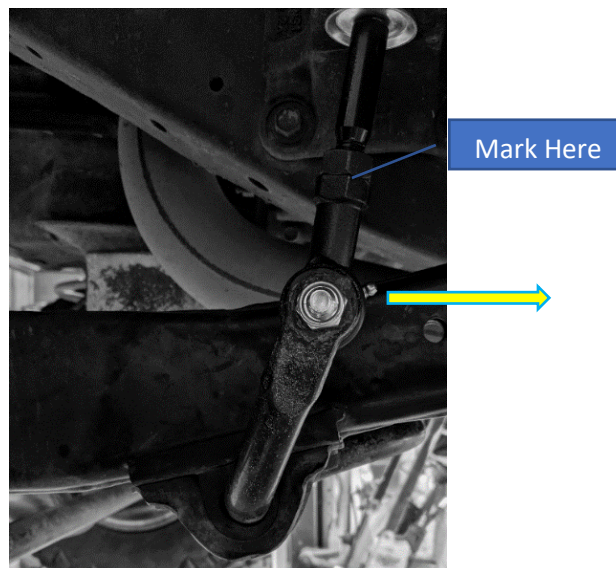

Figure 6. Installed Rear Driver's Side Link Pin
- Once the bushings show signs they are bulging, align the Rod End eye to the sway bar mounting eye and wind the lock nut to meet the Rod End and mark the thread with a marker (See Figure 6)